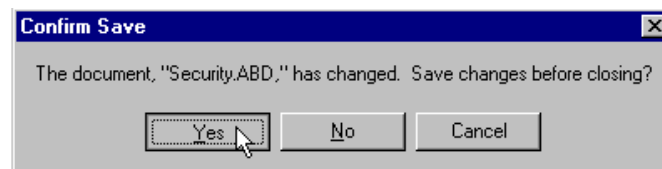

Figure 3-83 Closing Application Dialog
73. Choose **Exit** from the **File** menu. The program asks if you want to save the document "Security.ABD" before closing; click **Yes** (Figure 3-83).